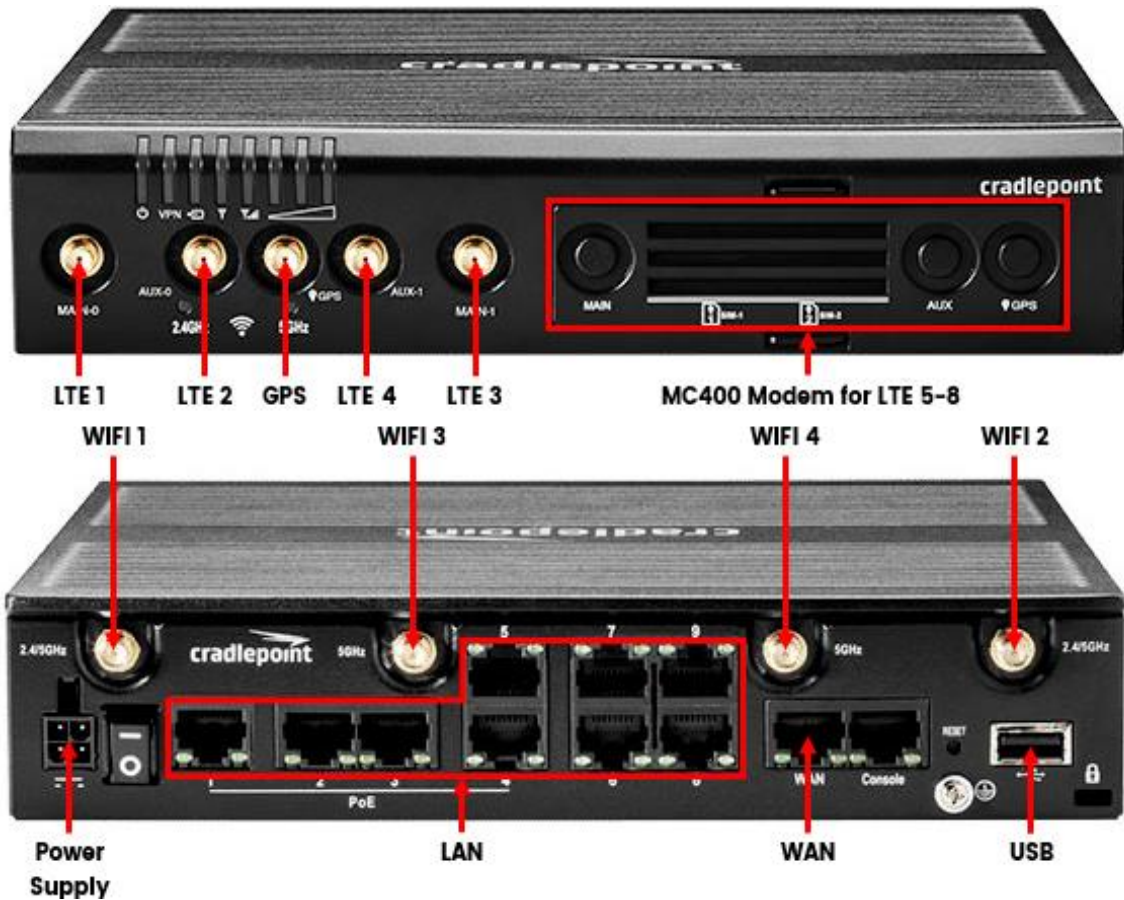

Figure 12: Cradlepoint AER2200 Connections
- A. For AER2200, IBR1700, and R1900 without the managed accessory, connect the router power supply to the power supply port on the router, shown in Figures 12, 13 & 14.
- A. Connect the provided ethernet cords to the LAN and WAN ports on the router, shown in Figures 12, 13 & 14.
- C. For transferring data to external devices, connect the other end of the USB-A cord into the USB-A port on the router, shown in Figures 12, 13 & 14.